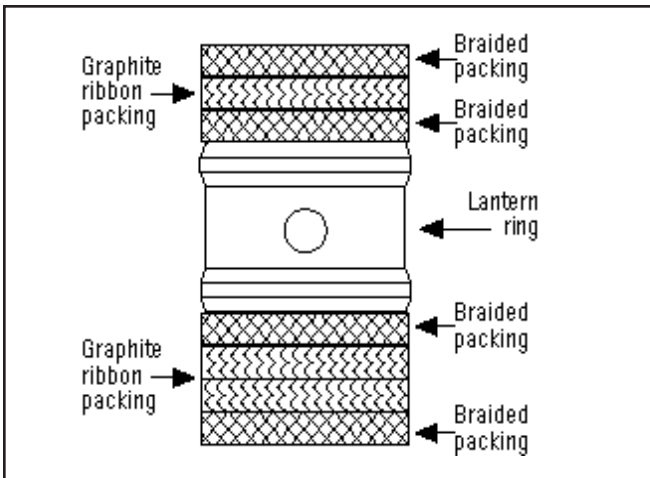

Figure 5.1E Lantern ring configuration
3. For braided packing rings: *Figures 5.1E and F* use special flexible removal tools (cork screw tip) *Figure 5.1A* screw into the packing ring and pull out.
For graphite ribbon packing *Figure 5.1E and F* with special "C" saw tool *Figure 5.1B* cut through the packings, apply downward pressure as you work the tool in a back and forth motion. Blow out packing remains using instrument air or suck out with a vacuum cleaner. Care must be taken not to scratch the stem or the walls of the packing chamber during the removal of the packing rings.